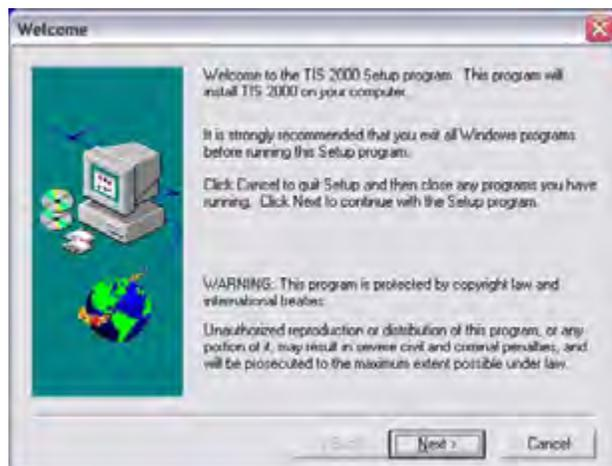

Figure 1.8: Welcome Window
- 1 Insert the Application CD into the PC's CD drive. The TIS 2000 Installation Welcome window appears automatically (Figure 1.8).